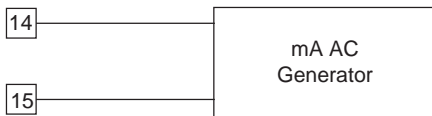

Fig.13
- b) Connect the instrument under test to the calibrator as shown in Fig. 13.